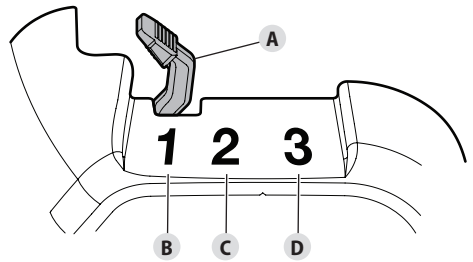

Fig. 13
2. Move the choke lever (Fig. 13-A) to **Position 1** (Fig. 13-B).
6. Move the choke lever to **Position 2** (Fig. 13-C).
9. Move the choke lever to **Position 3** (Fig. 13-D). Allow the engine to warm up for an additional 60 seconds. The unit may be used during this time.